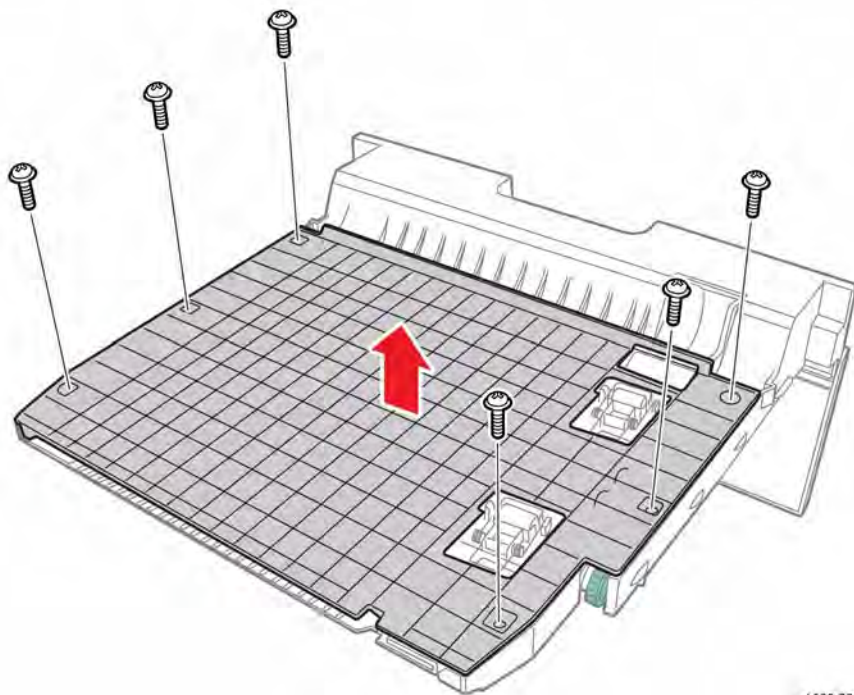

Figure 1 Remove the Duplex Unit cover
2. Remove 6 screws (plastic) that secure the cover to the Duplex Unit, Figure 1.